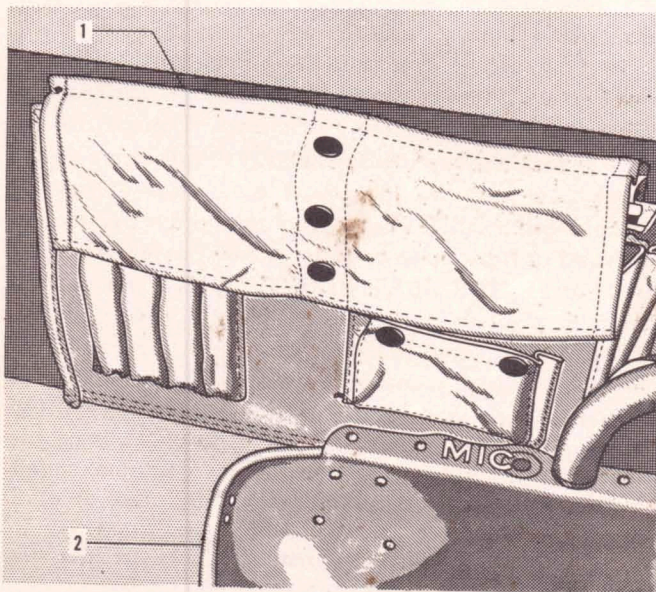

Figure 26—Pilot's Map Case
(6) **MAP CASE.**—The pilot's map case is located on the inboard face of the right console. (See figure 26.)
Parts list for figure 26.